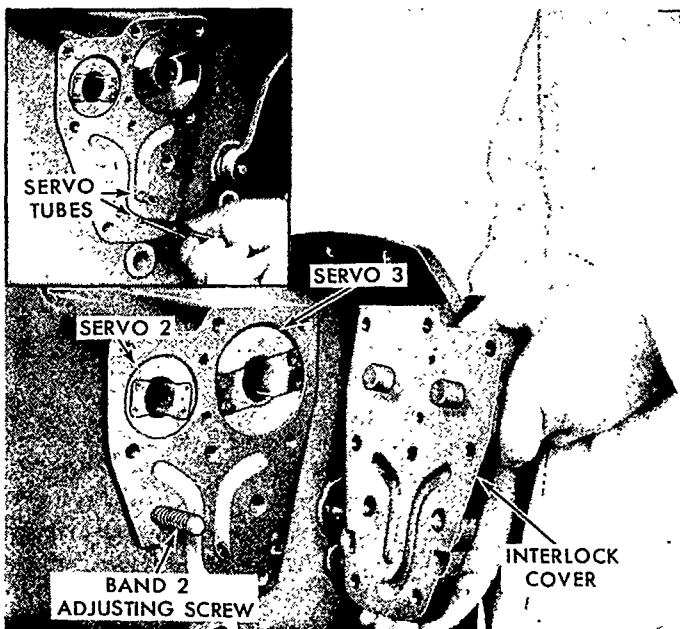

Figure 72
attaching bolts and remove the cover and gasket, shown in Figure 72.
14. Install and properly position the band 2 and 3 servo tubes into the distributor. See Insert, Figure 72. If the tubes are not aligned with the distributor, rotate the distributor as required and insert the tubes.